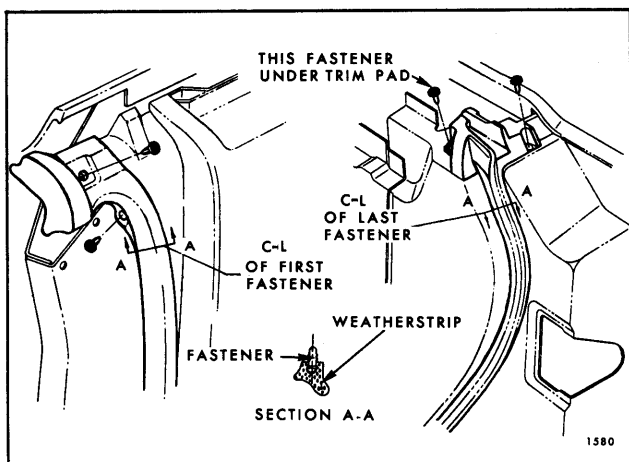

Fig. 6-3—Door Weatherstrip - Attachment Under Trim Assemblies
1. On all hardtop and convertible styles, remove exposed plastic fasteners at beltline. On all hardtop and convertible styles, except "B-39" style front doors, it is necessary to remove door trim assembly to gain access to weatherstrip fastener hidden under trim assembly (Fig. 6-3).